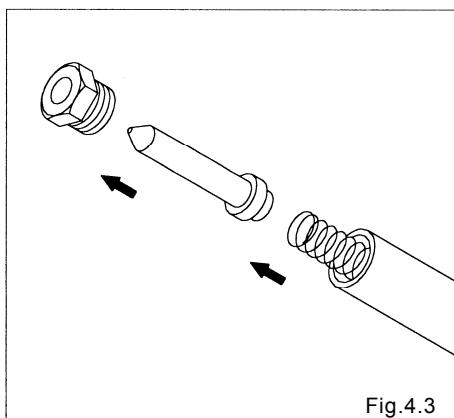

Fig.4.3
- Remove the nut, and remove the valve from the center rod. [Fig.4.3]